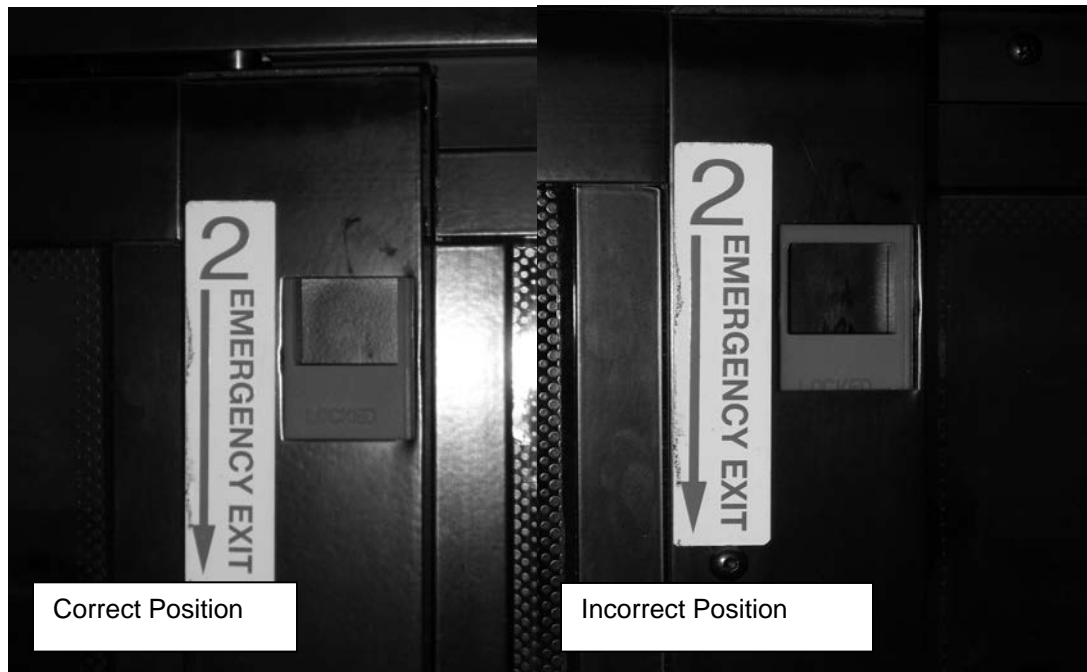

FIGURE 26: RELEASE LATCH PROPER POSITION
6. Confirm that both latches are in the closed (latched) position. The upper edge of the latch opening must be aligned with upper edge of the sash opening (Figure 26)